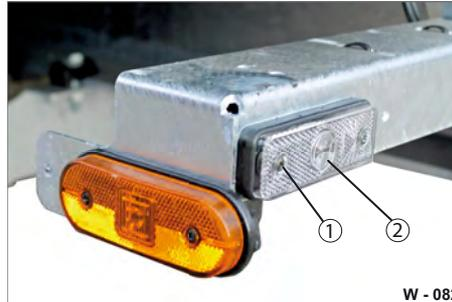

Fig. 80 Limit light, front side
- ▶ Loosen the fixing screws (Fig. 80/1).
- ▶ Remove the LED light (Fig. 80/2) - remove connection.